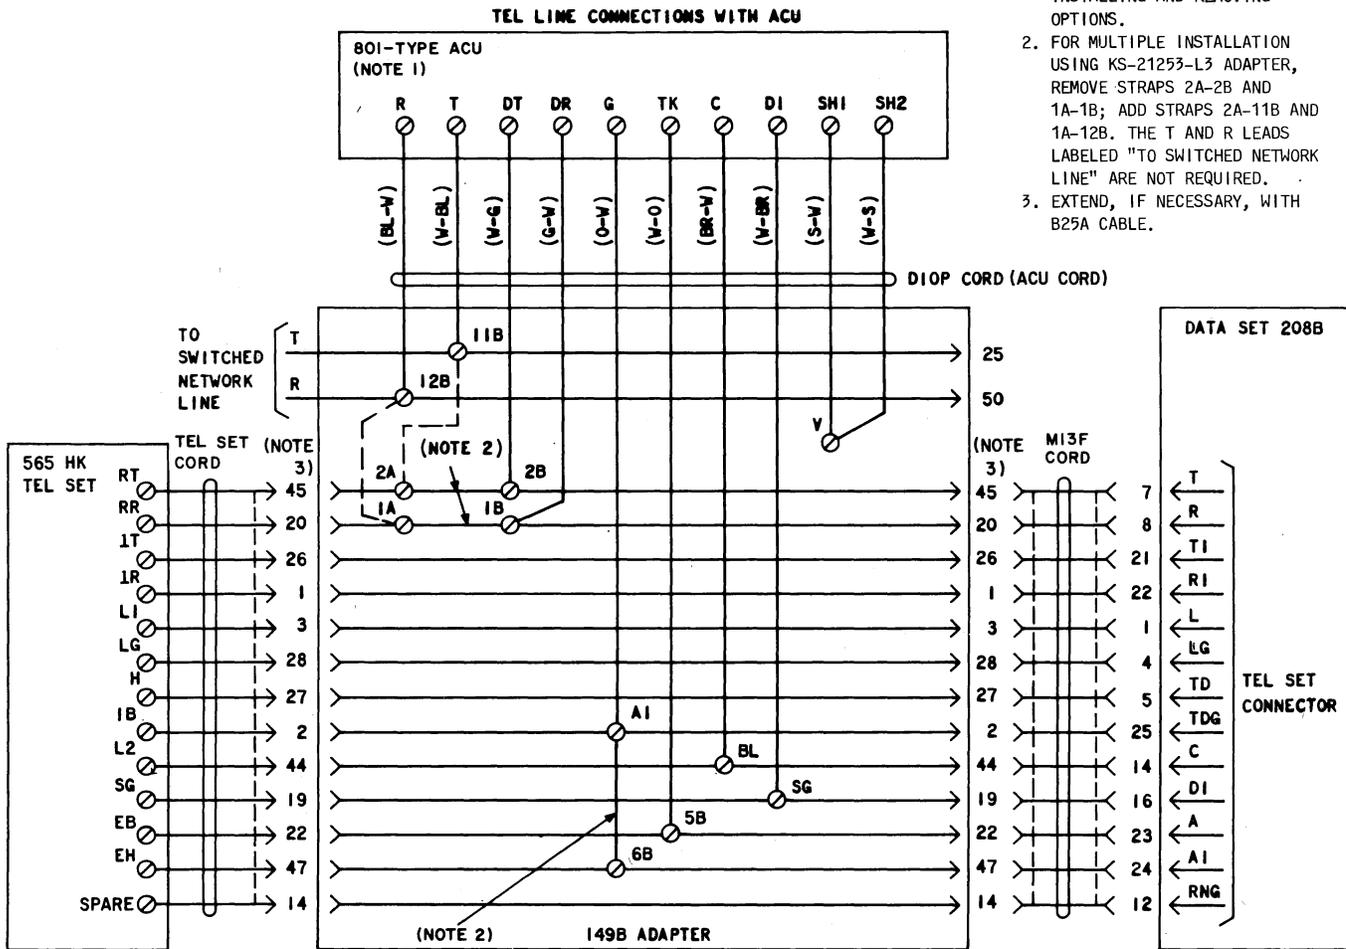

Fig. 8—Single Data Set 208B-Type Installation With ACU—Connection Diagram
2.16 The DAS 801-type ACU/data set interface connection is made via a 149B adapter and/or a KS-21253-L3 adapter. Connection to the ACU and data set through the 149B adapter and the KS-21253-L3 adapter are shown in Fig. 8 and 9, respectively. Functions of the data set/ACU interface leads are as follows: